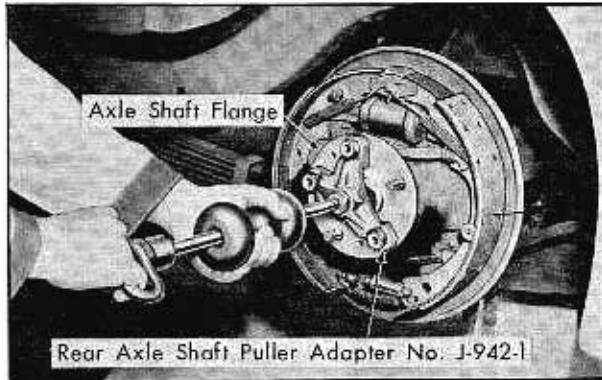

Fig. 8-8 Removing Rear Axle Shaft
4. Install wheel Puller, Tool No. J-942-1, on rear axle shaft studs and install Slide Hammer Assembly, Tool No. J-2619 in Puller. Fig. 8-8.